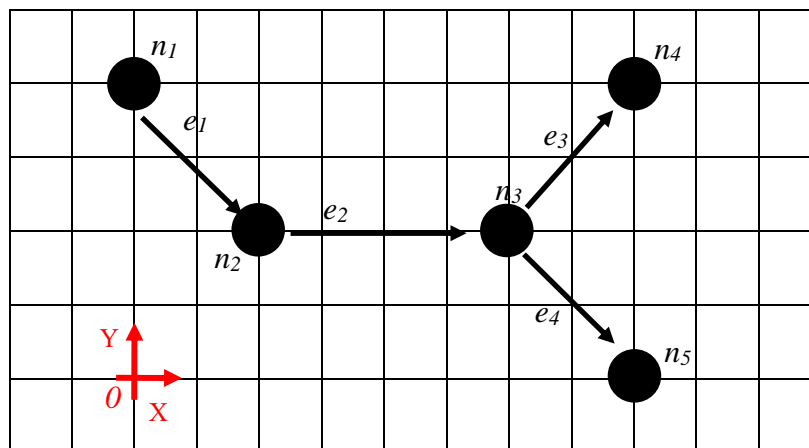

Figure 3. The desired topological graph of five agents.
24. (Q,3): Write down the Laplacian matrix of the graph in *Figure 3*, assuming all weights equal to one.
25. (Q,3): Write down the x- and y- biases of the agents in the graph relative to the origin of the coordinate system shown in *Figure 3*.
26. (Q,3): Assuming that each node of this graph has a state defined by its Cartesian position (node n_1 has (x_1, y_1) ; node n_2 has (x_2, y_2) ; etc.), write a Laplacian control law that will accomplish the formation of *Figure 3*.
27. (S,3): Open Matlab by typing “*matlab*” in a terminal. Open the script “*laplacian_formation.m*” in Matlab. Run the script. You will see five agents moving in the space converging to a formation. Verify that this formation is the one shown in *Figure 3*. How long does it take for the agents to get to their proper positions in the formation?